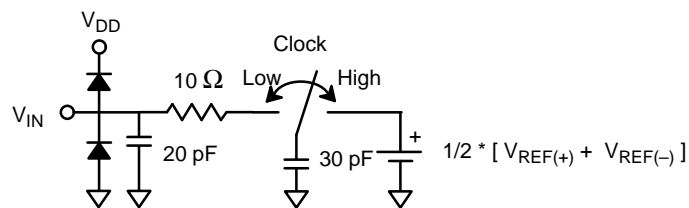

Figure 3. Analog Input Equivalent Circuit
- See V_{IN} Input Equivalent Circuit (Figure 3). Switched capacitor analog input requires input buffer with lowest output resistance possible.